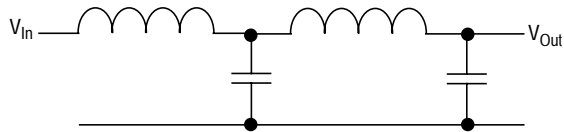

Figure 8. Multistaging Filtering
- Use high-frequency, low-inductance ceramic capacitors for integrated circuit (IC) decoupling at each power pin (0.1 μF for up to 15 MHz, 0.01 μF over 15 MHz).
- Use multistage filtering to attenuate multiband power supply noise as shown in **Figure 8**.